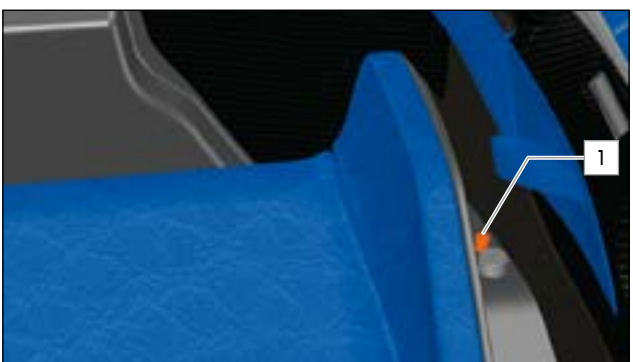

FIG.99 DRIVING DATA CONNECTION ON THE SIDE OF THE PASSENGER SEAT
- Connect the laptop with the PIT connector **1** (» Fig.99).